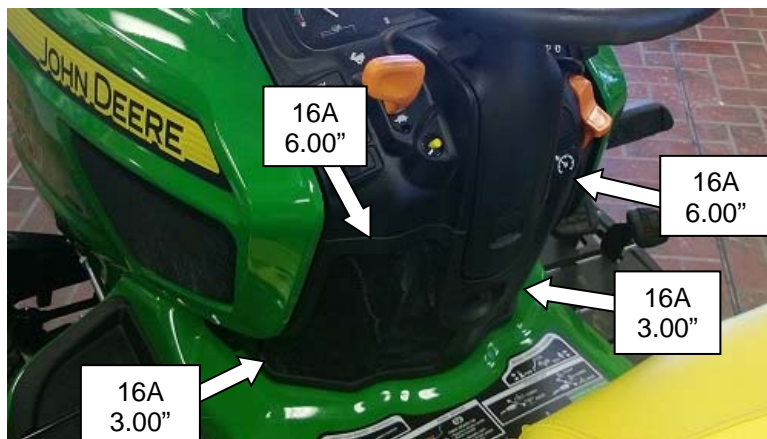

Figure 13
- 19) Clean surfaces of the middle hood intake screen **(Figure 13)** with isopropyl alcohol. Apply Velcro hook (16A), (2x) 6.00" long and (2x) 3.00" long. Middle seal-off panel (16D) can be used to help locate Velcro hook locations. Screen can be removed for install.
- 20) Secure middle seal-off panel (16D) to middle hood intake screen Velcro **(Figure 13)**.